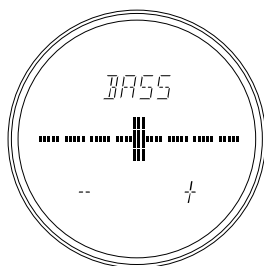

Fig.1
1. Press the **AMP** button once or twice to set the mode of **JOG** control to TONE control mode. "BASS" or "TREBLE" is displayed. (Fig.1)